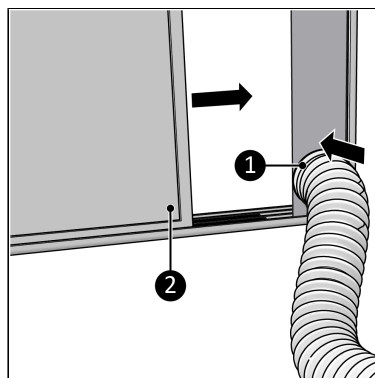

Figure 31.
5. Close the window (Figure 31, pos. 2). This will hold the window kit in place.
6. Connect the window kit connector to the window kit (Figure 31, pos. 1).